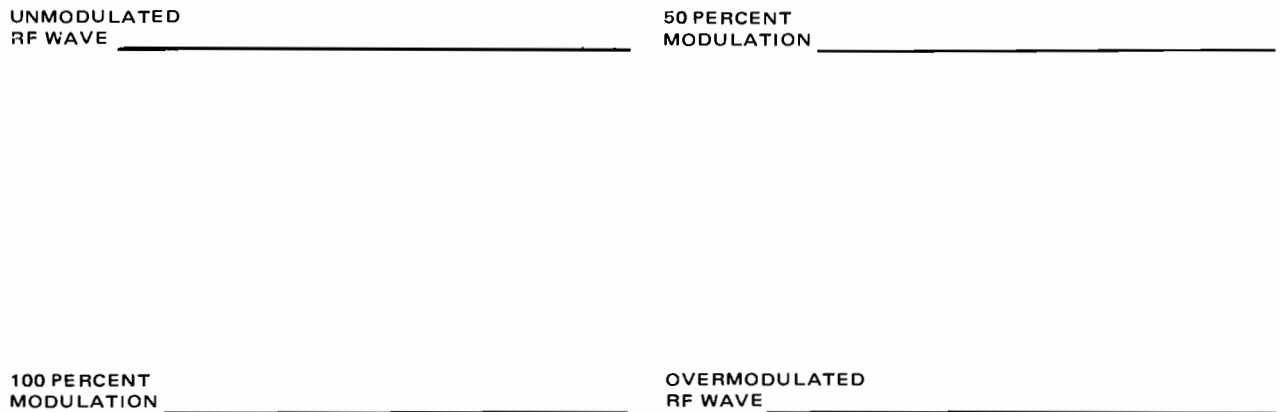

Fig. 19-2-3
3. Make a sketch in Fig. 19-2-3 showing an unmodulated RF wave, 50 percent modulation, 100 percent modulation, and an overmodulated wave.